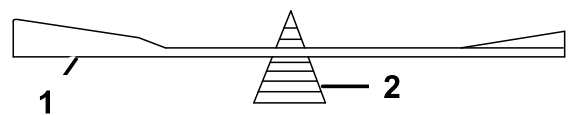

Figure 58
2. Check the balance of the blade by putting it on a blade balancer (Figure 58).